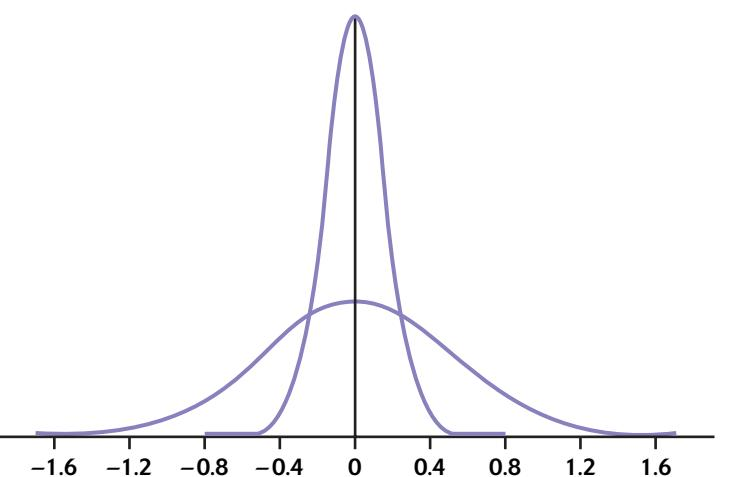

FIGURE 1.33 Two Normal curves with the same mean but different standard deviations, for Exercise 1.72.
- 1.72 Figure 1.33 shows two Normal curves, both with mean 0. Approximately what is the standard deviation of each of these curves?